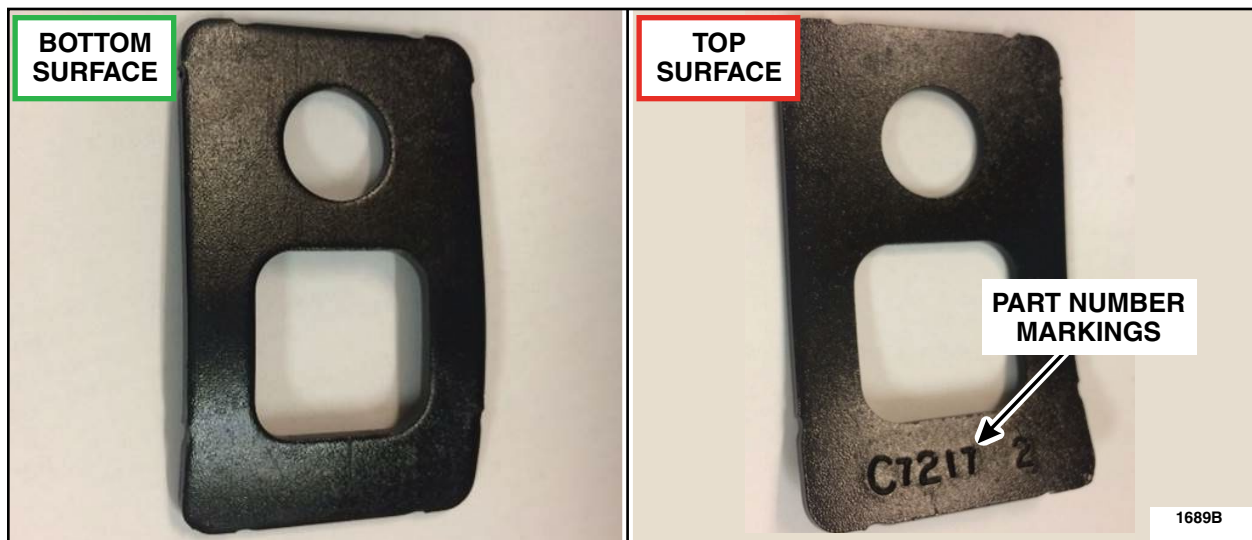

FIGURE 7
8. Apply Motorcraft® TA-1 adhesive to the **bottom** of the *new* frame crossmember reinforcement bracket. See Figure 7.